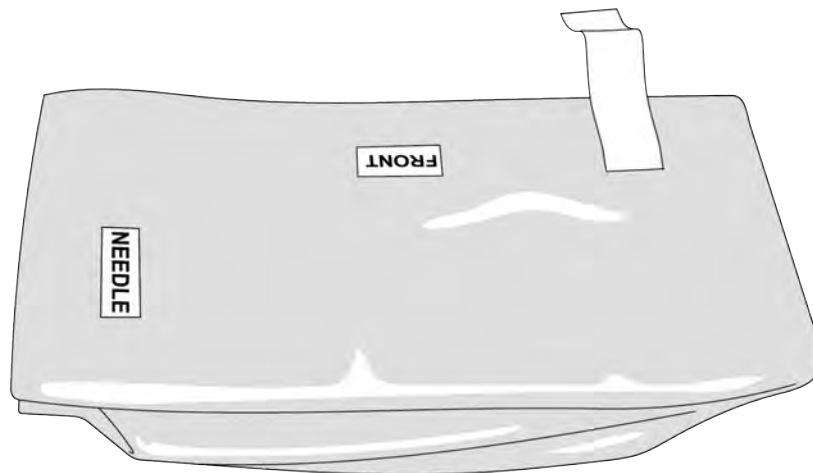

Figure 13. Proper Sterile Drape orientation after removing from sterile packaging.
7. Place Sterile Drape on a sterile surface with the text NEEDLE facing to the left, and the text FRONT facing away from the user as shown in Figure 13.